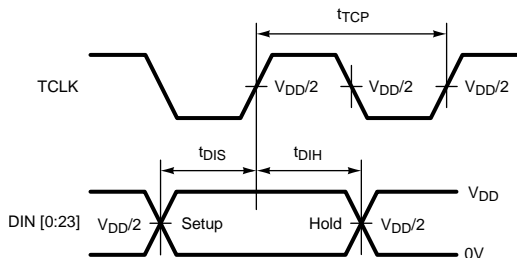

Figure 5. Serializer Setup/Hold Times
(1) Figure 5, Figure 15 show a rising edge data strobe (TCLK IN/RCLK OUT).
(2) tJIT (@BER of 10e-9) specifies the allowable jitter on TCLK. tJIT not included in TxOUT\_E\_O parameter.
(1) Specification is guaranteed by characterization and is not tested in production.
(2) Figure 5, Figure 15 show a rising edge data strobe (TCLK IN/RCLK OUT).